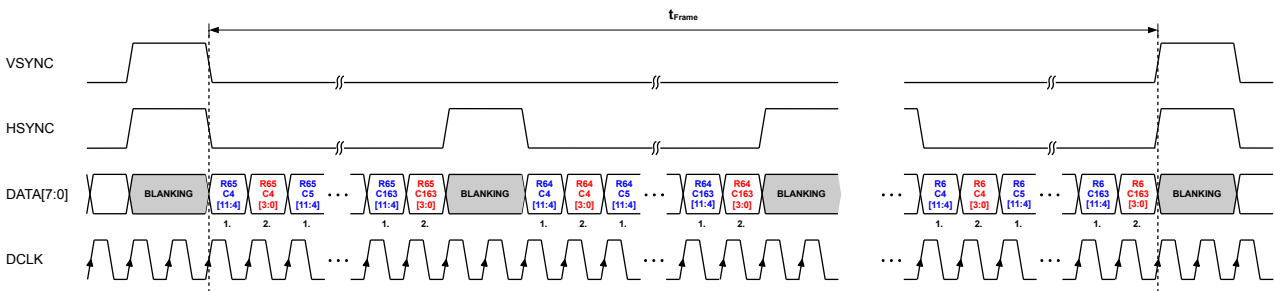

Figure 31: **msb/lbs** split mode
- **msb/lsh split mode:** Transfers 12 bit pixel data with MSByte leading and LSByte trailing with 2x DCLK. Refer to Table 14 and Figure 31.